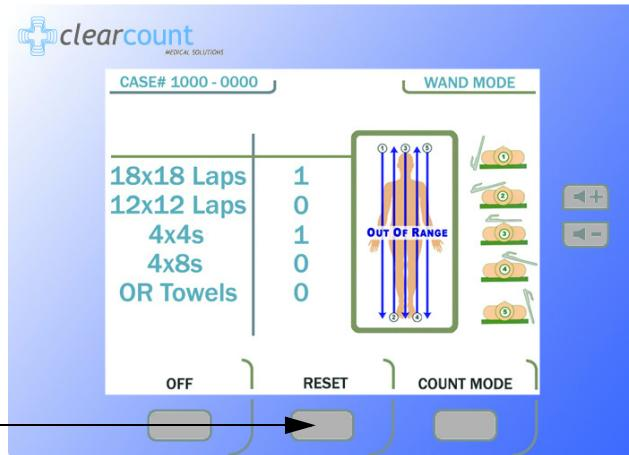
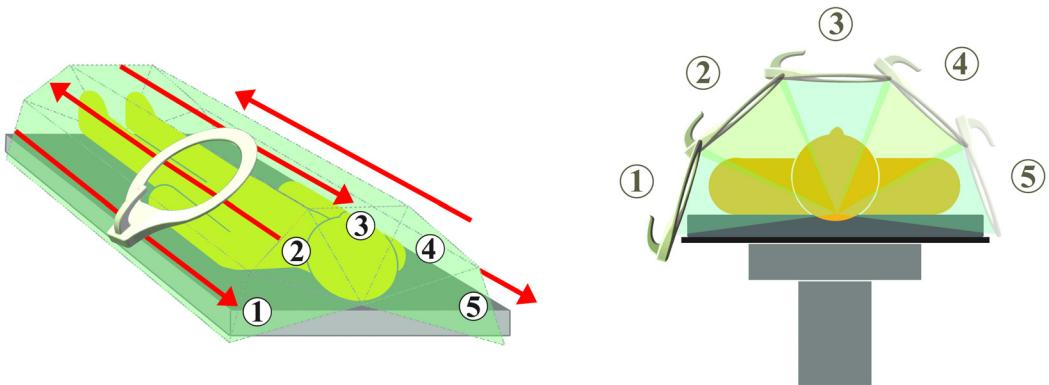

Figure 2-10 Wand Mode Screen
Figure 2-11 Patient Scan Procedure
The SmartWand may be used to scan patients for retained SmartSponge System sponges and towels at any point during the surgery. Onscreen instructions guide the user on performing a patient scan. If the SmartWand detects a retained item(s) in a patient, the red indicator on the wand flashes and the screen displays the type and quantity as shown in Figure 2-10.
- Press the **WAND MODE** button on the **Count** Mode screen to activate the wand. The **Wand Mode** screen shown in Figure 2-10 will then appear.
Step 5 Slowly scan the patient from head to toe moving at a rate of 0.2 meters a second (7 inches/sec), holding the SmartWand 1 to 3 inches above the patient. Follow the onscreen instructions shown in figure 2-10. It is important to do all the scans(1-5) in order to most accurately identify potential retained sponges.(Figure 2-11)